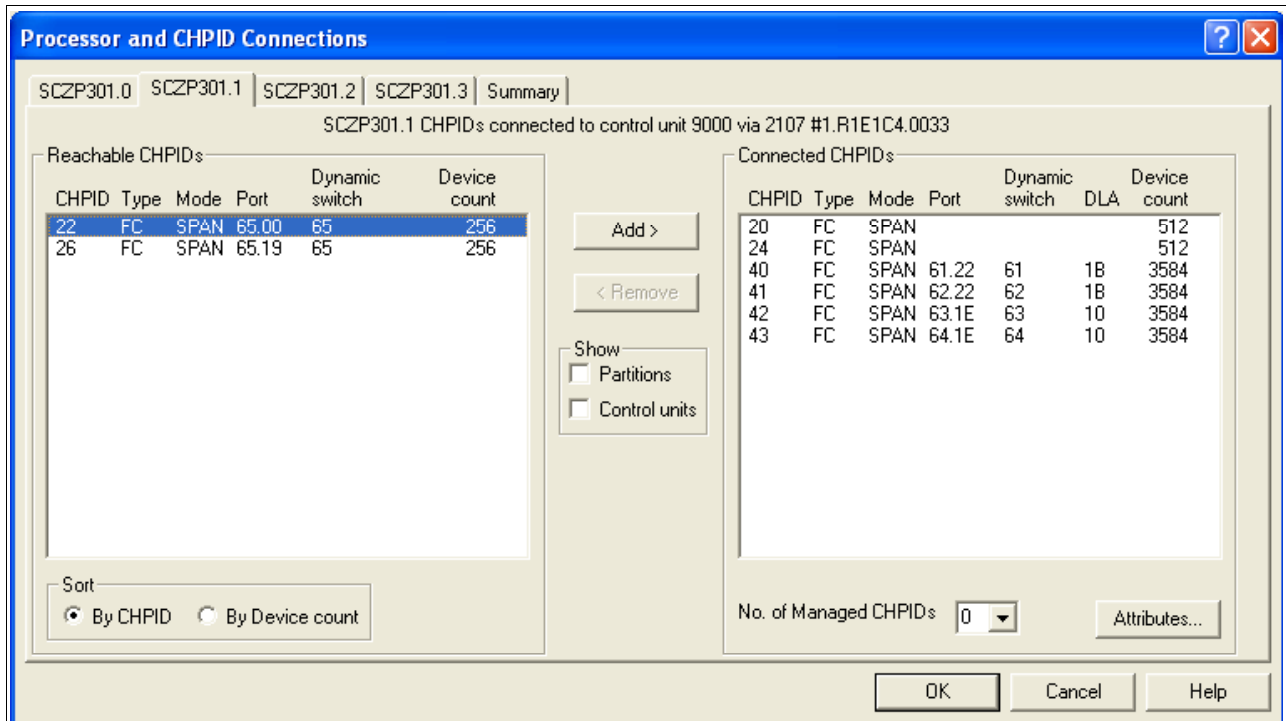

Figure 6-21 HCM Adding CHPIDs to CU definitions
23. Highlight CHPID 22, and then click **Add**. See Figure 6-21.